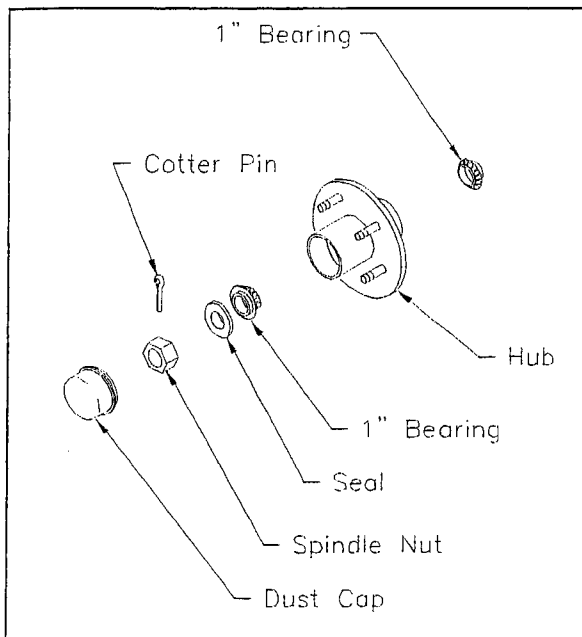

Figure 3-13
- Back off the spindle nut to the next slot on the nut aligns with the cotter pin hole, and install a new cotter pin. The hub should turn freely with no bearing end play. Refer to figure 3-13.